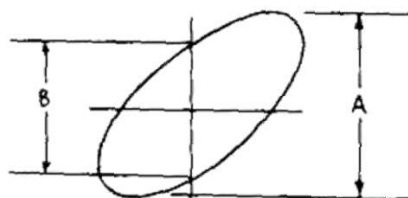

FIG. 8
**4—PHASE SHIFT MEASUREMENT**—By feeding one signal into the vertical and the other into the horizontal input, and keeping the **FUNCTION** switch in **HOR**, an elliptical pattern (Fig. 8) is produced. When the phase shift is zero, the ellipse becomes a straight line. The phase shift is found by formula  $\text{Sine } \Theta = \pm B/A$ , where  $\Theta$  is the angle of phase shift,  $A$  is the vertical distance between the extremes of the ellipse, and  $B$  is the length of the vertical centering axis in the ellipse. An interpretation of quadrants must be made.